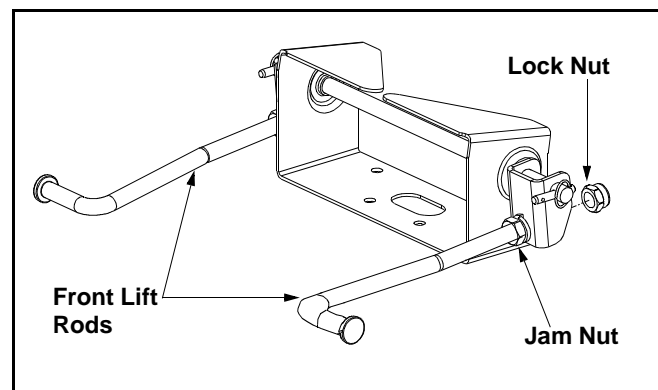

Figure 21
- Loosen the rear jam nuts on the front lift rods and turn the front lock nuts clockwise to raise the front of the mower deck or counterclockwise to lower the front of the mower deck. See Figure 21.